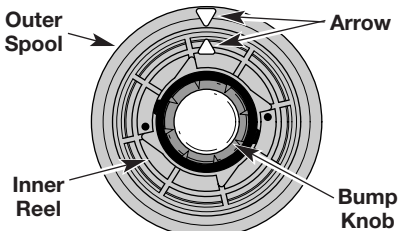

Fig. 10
1. Line up the arrow on the inner reel with the arrow on the outer spool (Fig. 10).